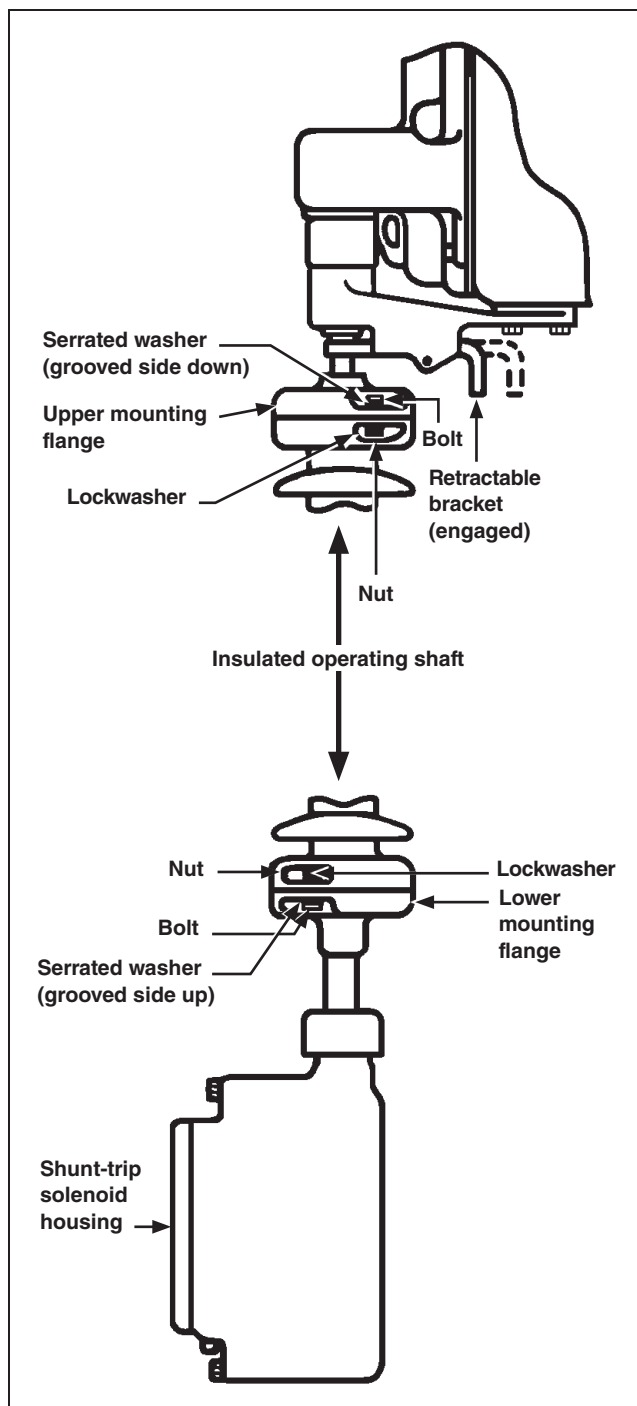

Figure 3. Installation details for insulated operating shafts.
**For Integer-style circuit-switchers and 34.5-kV and 46-kV vertical-break style circuit-switchers:** These circuit-switchers are shipped with the insulated operating shafts already installed. Disengage the retractable brackets as described below. See Figure 3.
**STEP 1.** At each pole-unit, fasten the insulated operating shaft to the upper mounting flange (extending from the shunt-trip linkage housing on the brain) and to the lower mounting flange (extending from the shunt-trip solenoid housing on the base) and tighten the bolts. Using the  $\frac{3}{8}$ -inch stainless-steel fastening hardware supplied, place the serrated side of the washers toward the slotted holes in the mounting flanges. See Figure 3.